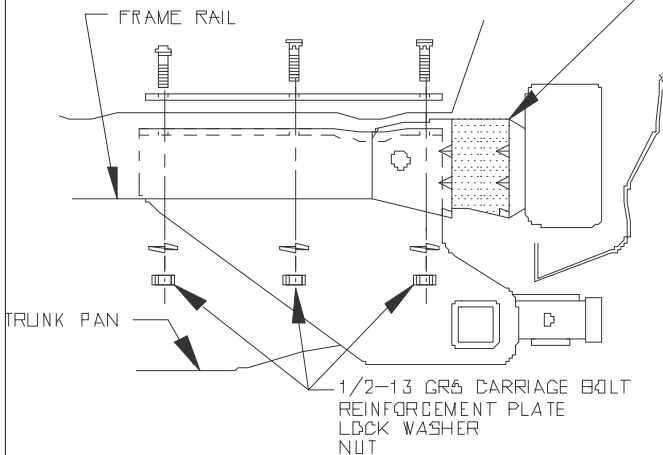

FIGURE 3. DRIVER'S SIDE
12. INSTALL 1/2" CARRIAGE BOLTS DOWN THRU REINFORCEMENT PLATE AND TRUNK PAN INTO HITCH. FASTEN WITH LOCK WASHERS AND NUTS AS SHOWN IN FIG 3.
13. USING REINFORCEMENT PLATE AS A TEMPLATE, DRILL THREE (3) 1/2" HOLES (OUTBOARD OF HOLES DRILLED EARLIER), THROUGH TRUNK PAN. INSTALL REMAINING 1/2 CARRIAGE BOLTS AND FASTEN WITH FLAT WASHERS, LOCK WASHERS AND NUTS.